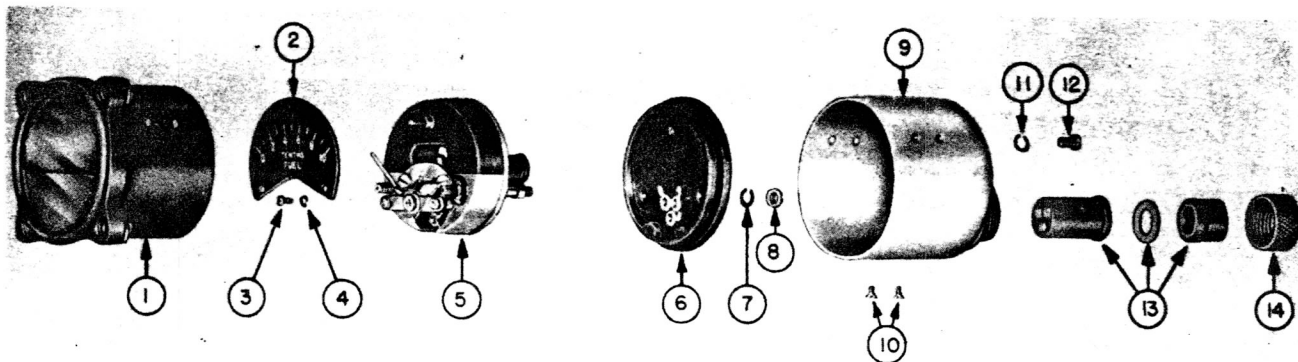

Figure 229—Case, Shield, Scale, and Base Removal—
(1) CASE REMOVAL. (See figure 229 or 230.)
(2) SHIELD REMOVAL. (See figure 229 or 230.)
(3) SCALE PLATE REMOVAL. (See figure 229 or 230.)
(5) BASE REMOVAL (PART NUMBER 110026.) (See figure 229.)